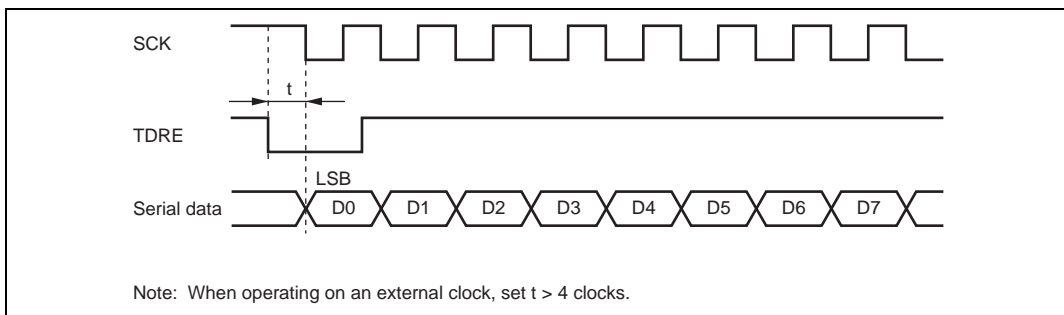

Figure 15.38 Example of Clocked Synchronous Transmission by DMAC* or DTC
- When an external clock source is used as the serial clock, the transmit clock should not be input until at least 5 ϕ clock cycles after the TDR is updated by the DMAC* or the DTC. Misoperation may occur if the transmit clock is input within 4 ϕ clocks after TDR is updated (figure 15.38).